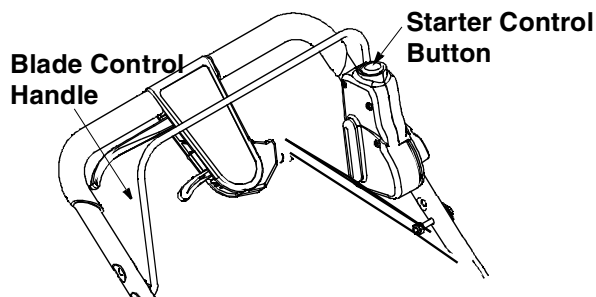

Figure 7
3. Turn safety key 1/4 turn clockwise to RUN position.
6. Using your left hand, pull the blade control handle all the way toward the upper handle. See Figure 7. Starter will de-energize and engine will start. (NOTE: If engine does not start, release blade control handle and follow steps 8, 9, 10, 11 and 12 in the "First Time Starting Engine" instructions.)